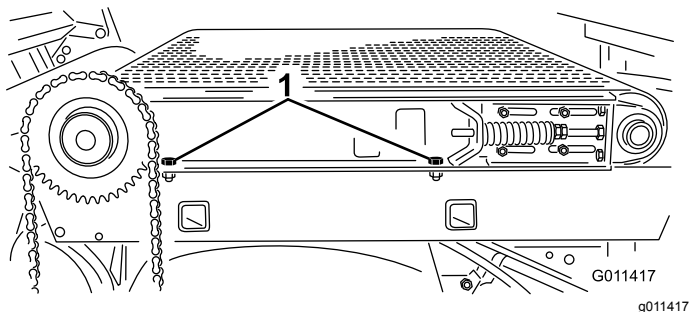

Figure 34
6. Loosen 2 cap screws, washers, and nuts on the right side of machine, securing the slider bed to the frame (Figure 34). Ensure that the fasteners are loose enough to allow the slider bed to be tipped.